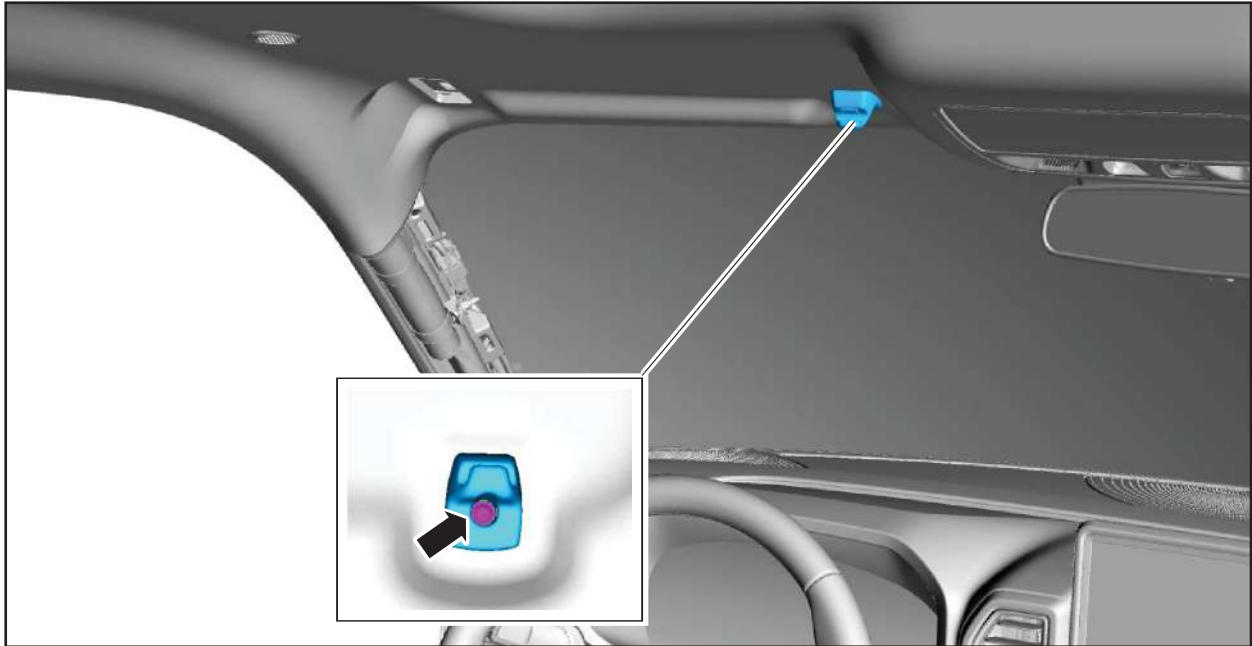

FIGURE 30
30. Remove the screw and the sun visor clip. See Figure 30.